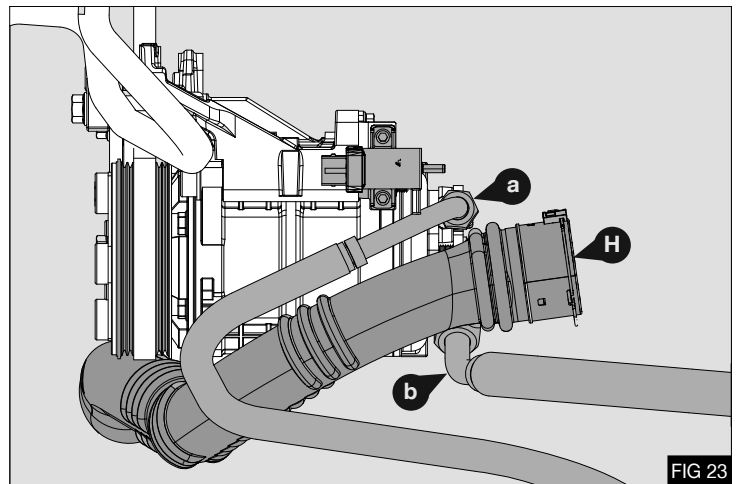

FIG 23
1. Fit compressor hoses as shown - Fig 23 & 24
2. Re connect air pipe (H) once the hoses are correctly installed - Fig 23